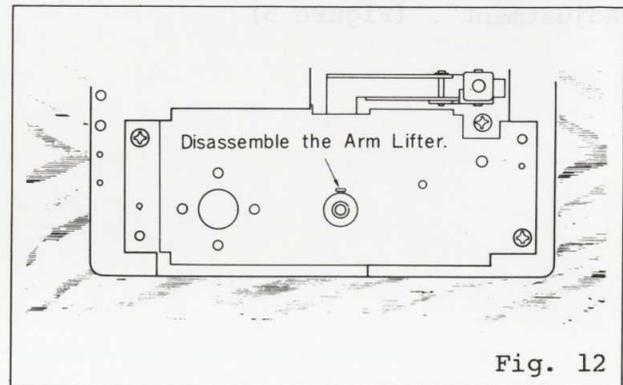

Fig. 12
2. Remove the Arm Lifter Assembly. (Figure 12)